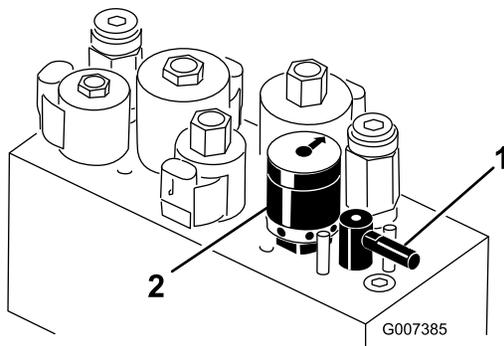

Figure 57
4. Rotate the backlap lever to the R position (Figure 57).
5. Rotate the reel-speed control to setting 1 (Figure 57).